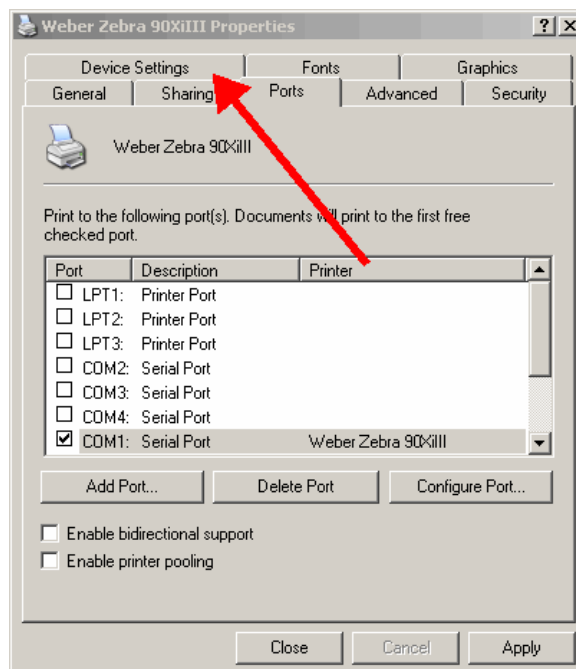

Figure 28
32. Click on the Device Settings tab. (Figure 28)